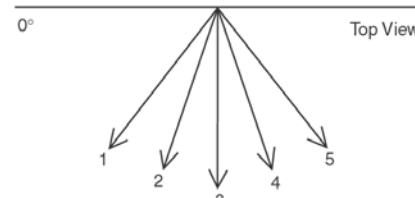

Figure 2
2. Manual horizontal airflow direction can be set using remote controller; the angles of the vane are as stated below and the positions of the vane are as Figure 2 above.